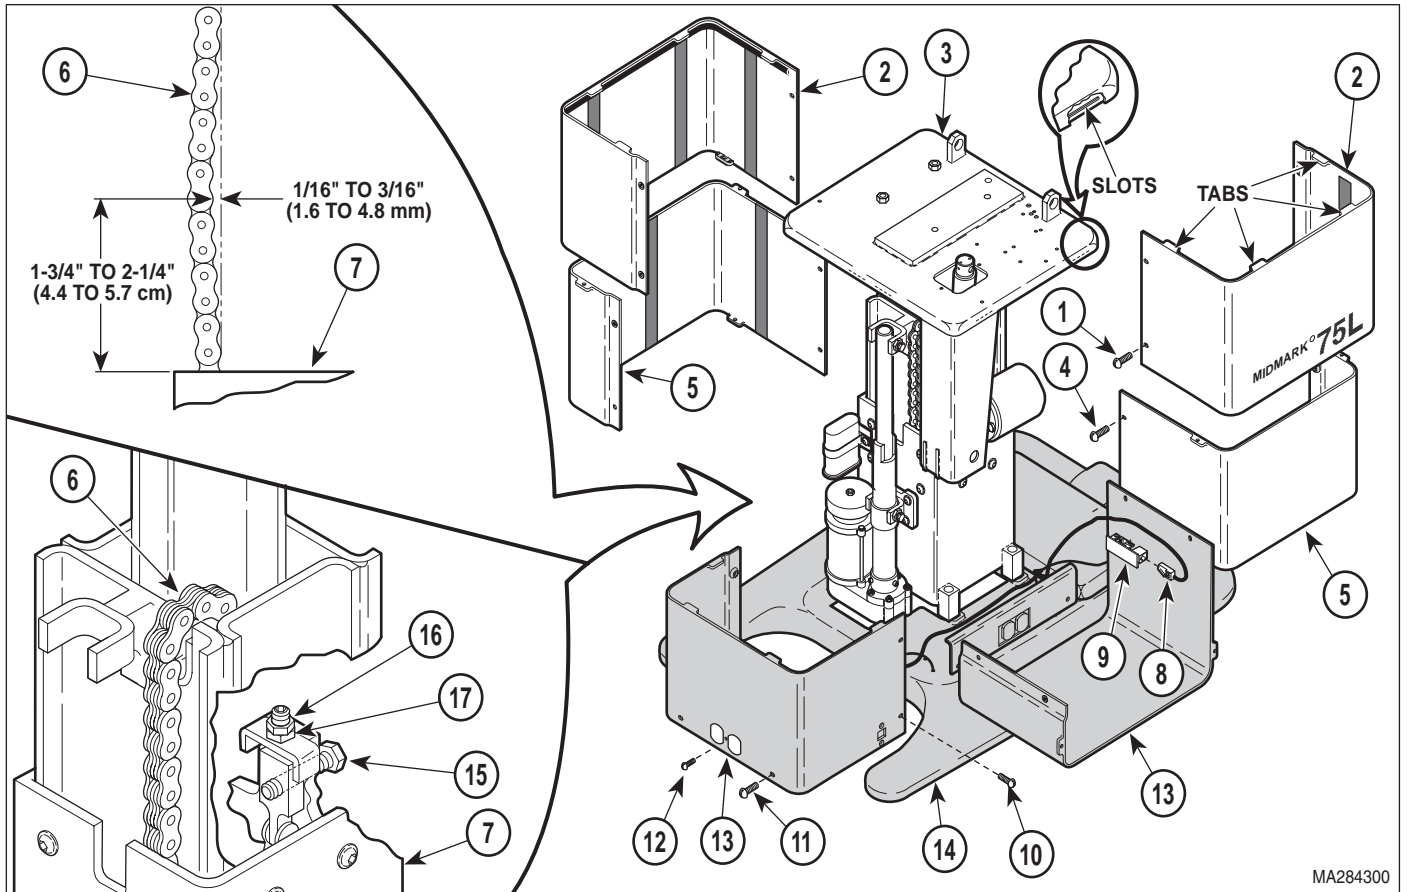

Figure 4-24. Chain Tension Check / Adjustment
(5) Remove four screws (1, Figure 4-24) and R.H. and L.H. outer shrouds (2) from column adapter weldment (3).
(6) Remove four screws (4) and R.H. and L.H. middle shrouds (5).
(7) Measure slack in chain (6) at a point $1\frac{3}{4}$ to $2\frac{1}{4}$ in. (4.4 to 5.7 cm) above top of outer slide weldment (7).
(8) If slack in chain *is* between $\frac{1}{16}$ to $\frac{3}{16}$ in. (1.6 to 4.8 mm), go to step 18. If slack in chain (6) *is not* between $\frac{1}{16}$ to $\frac{3}{16}$ in. (1.6 to 4.8 mm), go to step 8.
(9) Disconnect modular cords (8) from inlet PC boards (9).
(10) Remove four screws (10), four screws (11), two screws (12), and partially remove R.H. and L.H. inner shrouds (13) from base casting (14).
(11) Loosen locking screw (15).
(12) Loosen jam nut (16).
(13) Tighten adjusting nut (17) until slack in chain (6) is between $\frac{1}{16}$ to $\frac{3}{16}$ in. (1.6 to 4.8 mm).
(14) Repeat entire procedure to ensure correct adjustment.
(15) Coat threads of jam nut (16) with permanent threadlocking adhesive (Loctite 262).